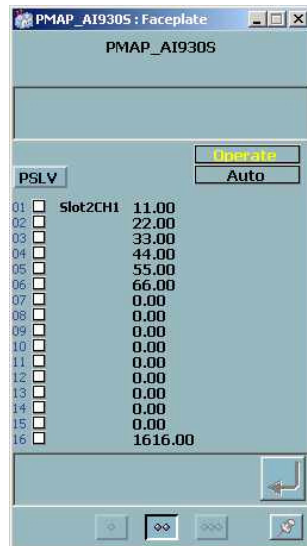

Figure 207. PMAP Module
**Profibus Mapping (PMAP).** The Profibus Mapping module faceplate represents mapping of Profibus data packs from a Profibus device to Controlware stored values in an 800xA for DCI controller. The PMAP module provides up to 16 stored values that can be set to different data types such as integer, double integer, string, etc. The PMAP module reports the 16 values, the data types of each value, the quality of each value, and alarm status used for display in the faceplate. Figure 207 shows the layout of the PMAP normal sized faceplate and its attributes.